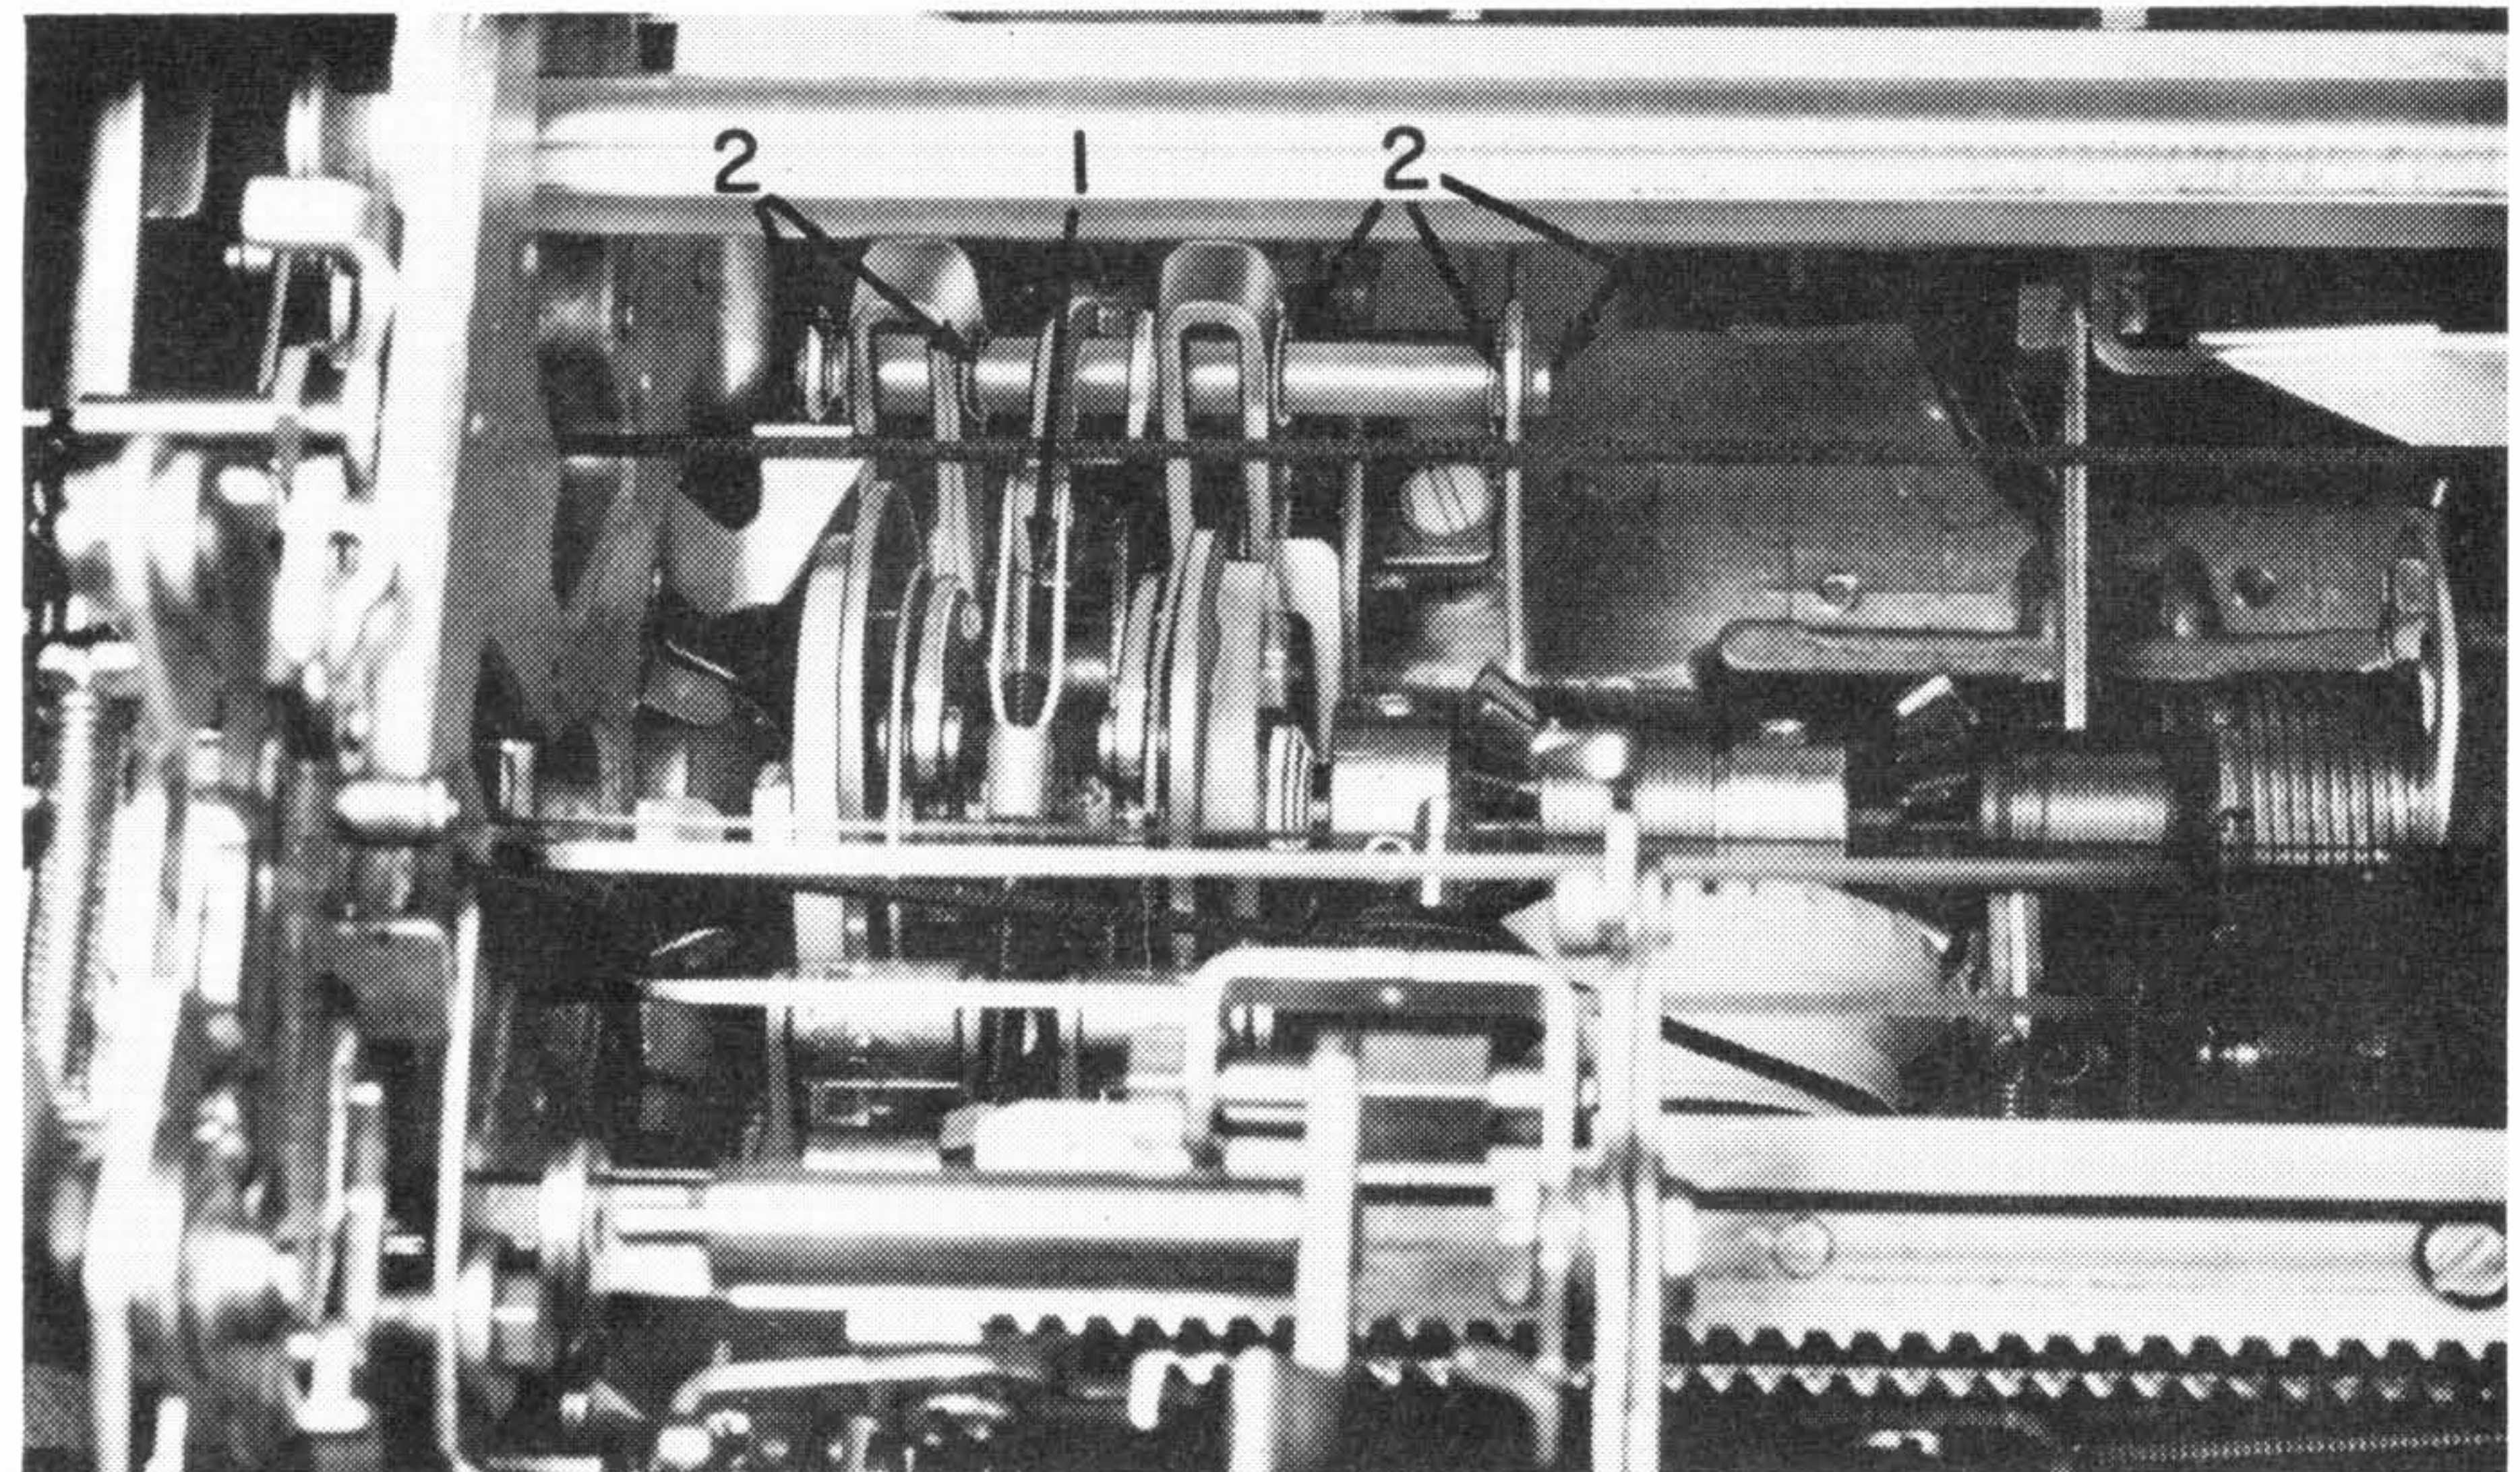

Figure 42. Operational Cam Check Pawl and Escapement Cam Follower Removal
2. Disconnect the escapement link (#1, Figure 42).
3. Remove all C-clips from the check pawl shaft (#2, Figure 42).